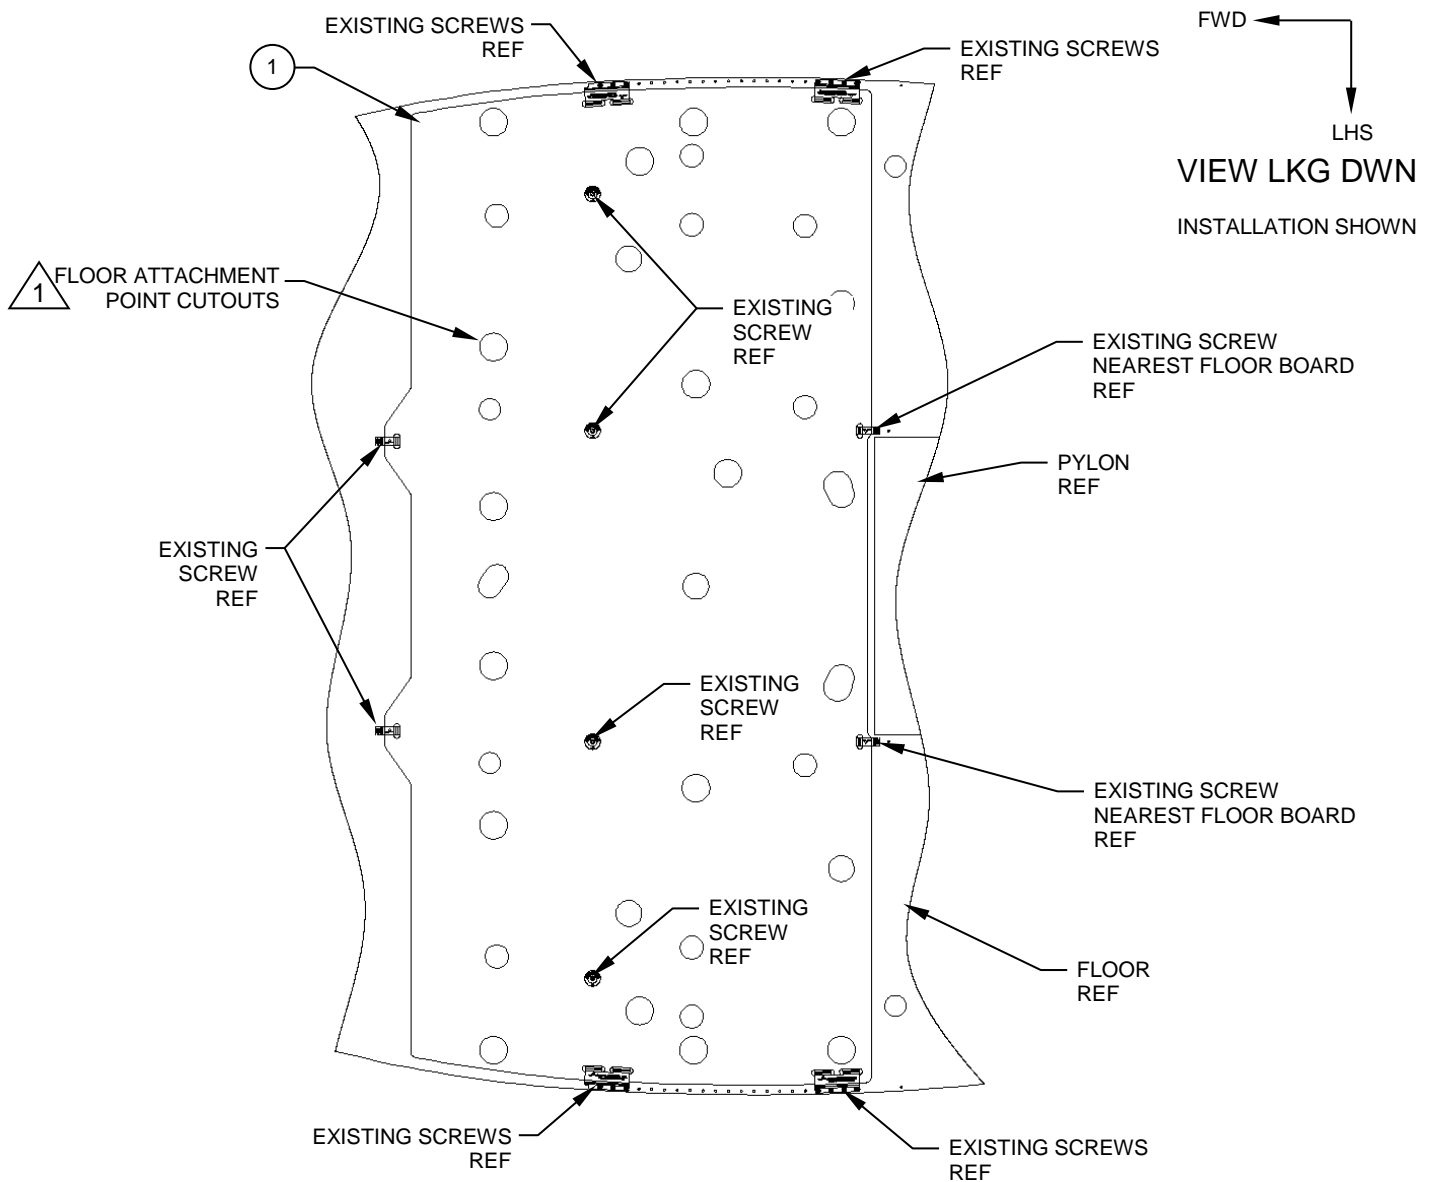

**Figure 1**
1. Temporarily remove the 4 Man, AFT facing seat and 5 Man, FWD facing seats/seat legs and any other fixed or loose items they may obstruct the installation of the Floor Board Assy, Item 1. Reference Figure 1.